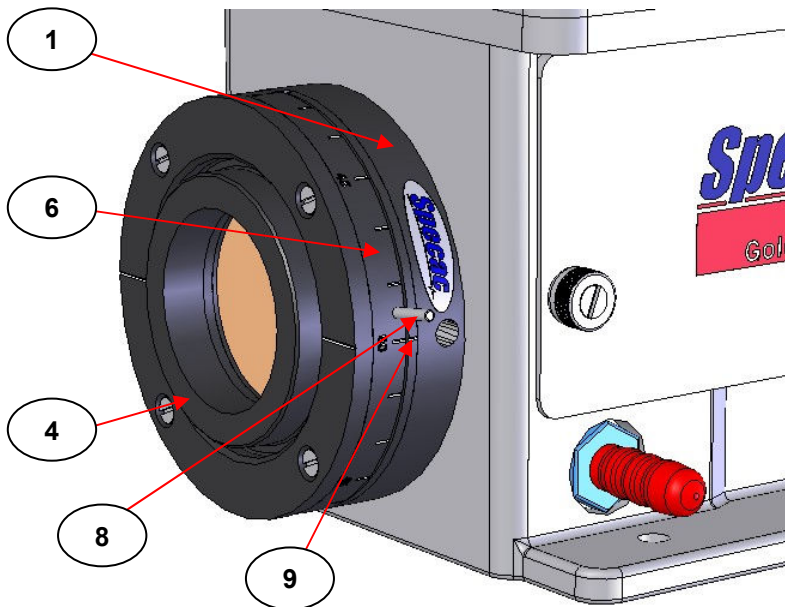
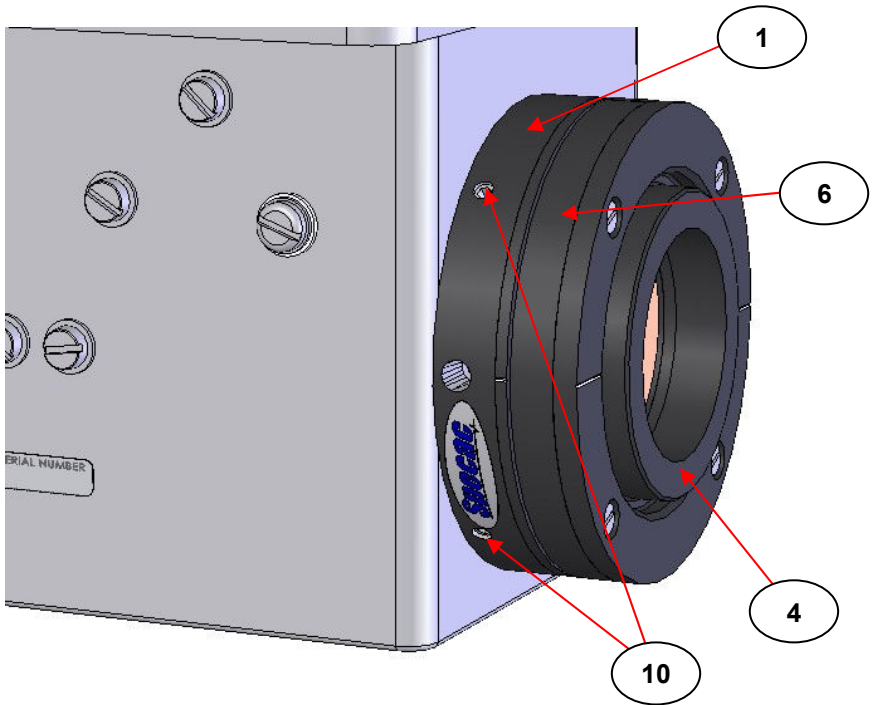
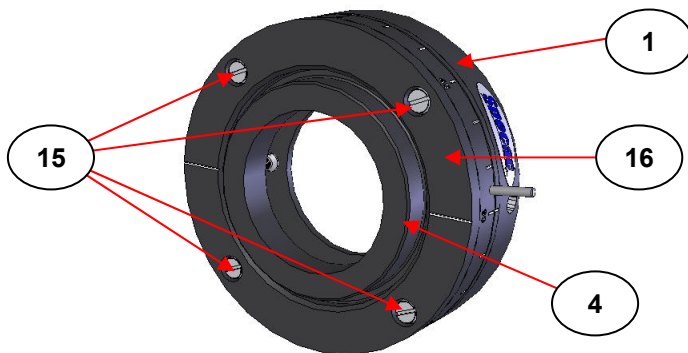
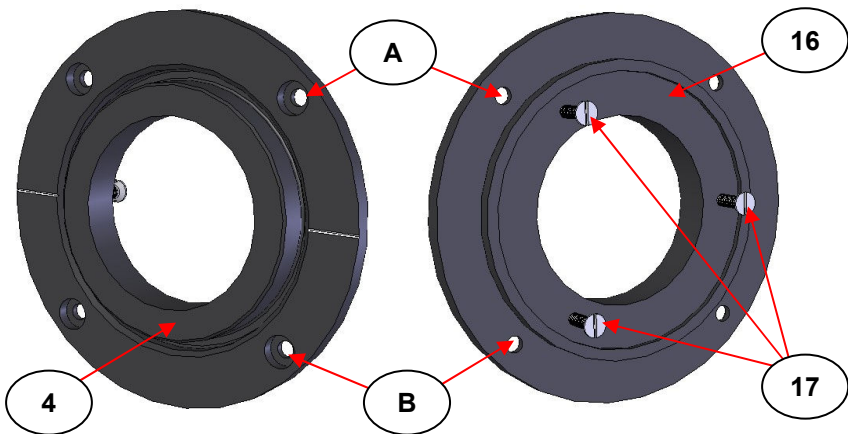

Fig 5. Close Up Front View of GS12510 Rotator Mount Fixed to the Benchmark™ Optical Unit
Fig 6. Close Up Rear View of GS12510 Rotator Mount Fixed to the Benchmark™ Optical Unit (Grub Screw Fixings)
Fig 10. Slot Head Screws to Remove to Fit a Polarizer
Fig 11. Front and Rear Views of Circular Plate That Holds the GS57010 Series Polarizer
the toggle bar (8) is facing towards the front, the angular notch indicator (9) will also be seen. (The toggle bar (8) is fixed between the 75° and 90° angle marks on the rotating ring (6)). To set a particular angle of orientation for the polarizer grid the angle mark on the rotating ring (6) is aligned with the notch indicator (9) by turning of the rotating ring using the toggle bar (8). (See Fig 5.)
To secure the polarizer mount (1) to the aperture port (5) there are two grub screws (10) to tighten (See Fig 6.) The grub screws (10) are on the opposite side of the rotator mount (1) when the toggle bar (8) on the rotating ring (6) aligns with the angular notch indicator (9) and is pointing towards the front of the optical unit as shown in Fig 5.
Take the rotator mount (1) and having removed both the front (2) and rear (3) protective covers, turn the rotator mount rotating ring (6) with the toggle bar (8) such that the 90° angle mark is set to align with the angular indicator notch (9). (This is similar to how the rotator mount (1) would be set when fitted to the Benchmark™ optical unit for use – see Fig 5. The toggle bar (8) will be facing towards the front). Now unscrew and remove the four slot head screws (15) from the front face of the rotator mount to remove the circular plate (16) as seen at Fig 10.
Therefore, having preset the rotator mount (1) to read a 90° angle setting before removal of the circular plate (16) (to coincide with the image as seen from Fig 10.), two of the screw holes in the circular plate (16) have been identified as (A) and (B) for the orientation of the front face of the circular plate (16) in relationship to the three screw fixings (17) on the rear face to allow for a correct fit. (See Fig 11.).